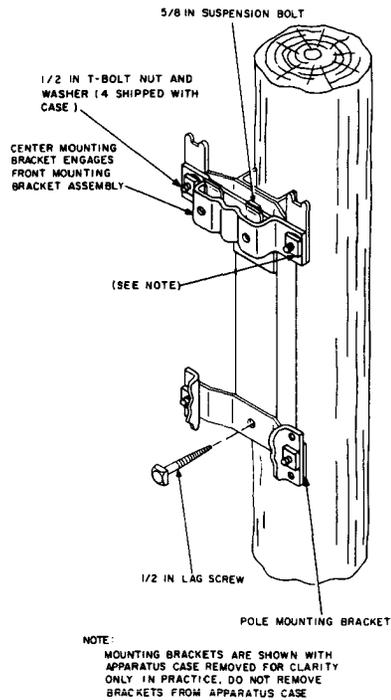

Fig. 19—Vertical Pole Mounting at an Aerial Location (Stub Cable Upward)
mount the repeater case. This bracket (Fig. 19 and 20) allows the case to be mounted with the stub cable up or down.
3.06 For installation, the case can be lifted by means of a sling attached through the opening in the repeater case housing. A hand line can be used to bridle the stub coil to the lifting harness to support the stub coil while being raised. The case can be hung on the pole bracket as shown in Fig. 19 and 20. For mounting with stub up, hooks on the pole mounting bracket engage the front mounting bracket of the repeater case. For mounting with stub down, hanger hooks on the rear mounting brackets of the case engage the top of the pole mounting bracket. Once in position, the case can be firmly bolted in place.